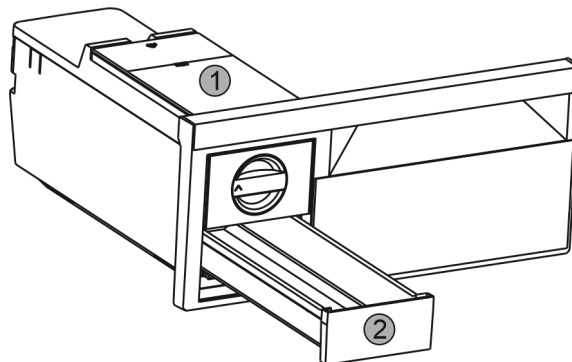

Fig. 46
- ▶ Take out the water tank Fig. 46 (1) and ice cube drawer Fig. 46 (2).